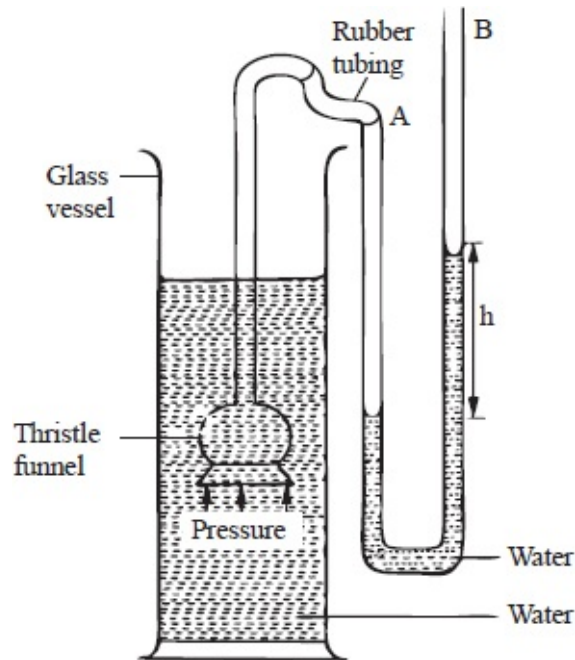

Fig. 4.7: Pressure variation in a liquid
- Lower the funnel to different depths from the surface and notice the difference in levels, h , of water in the U-tube, see figure 4.7.